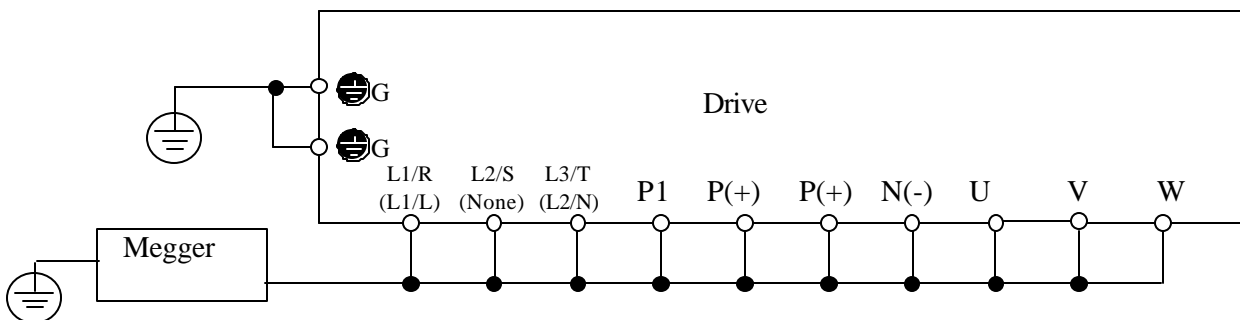

Figure 8-4-1 Megger Test
- 3) Connect the main circuit terminals using common wires as shown in Figure 8-4-1